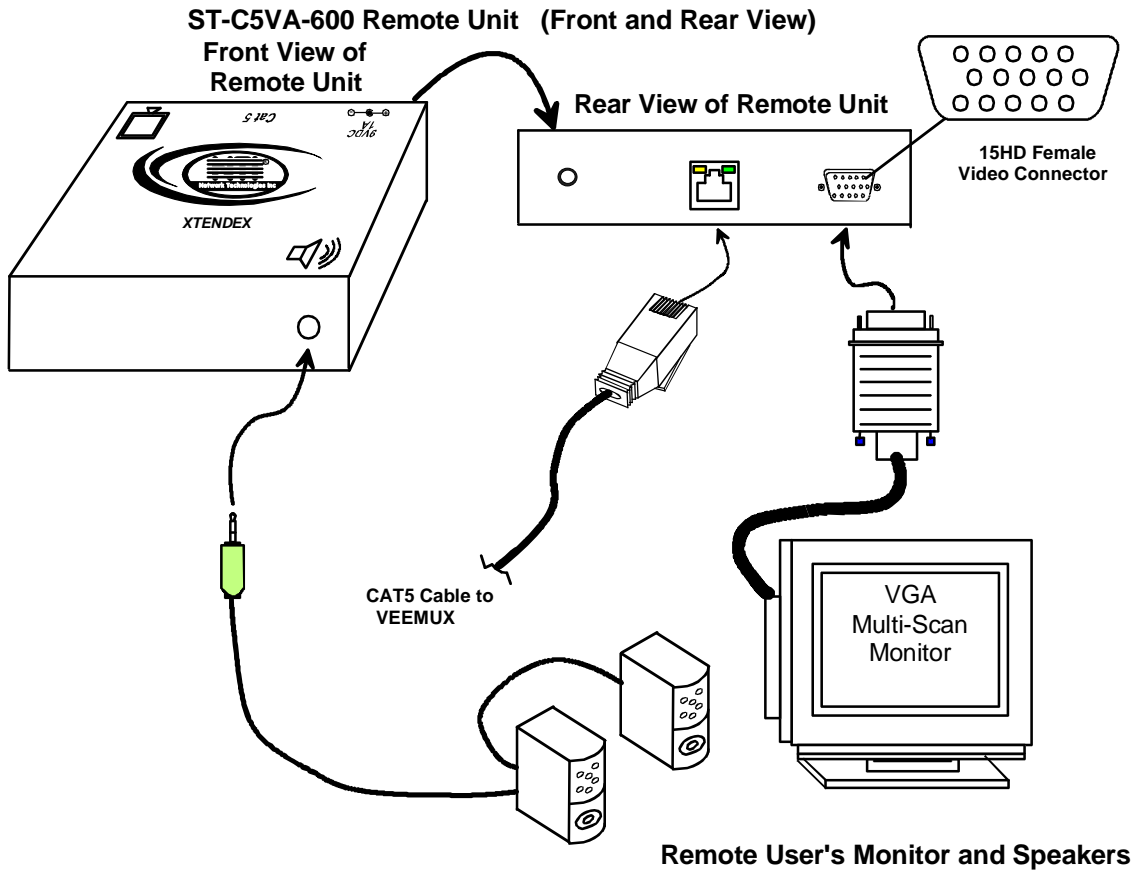

Figure 3- Connect the Extended Components to the Remote Unit
3. Connect the speakers to the 3.5mm jack on the Remote Unit (see Fig. 3).
4. Connect the CAT5 cable to the "Cat 5" port on the Remote Unit. (See Fig. 3.) When properly inserted the CAT5 cable end should snap into place.